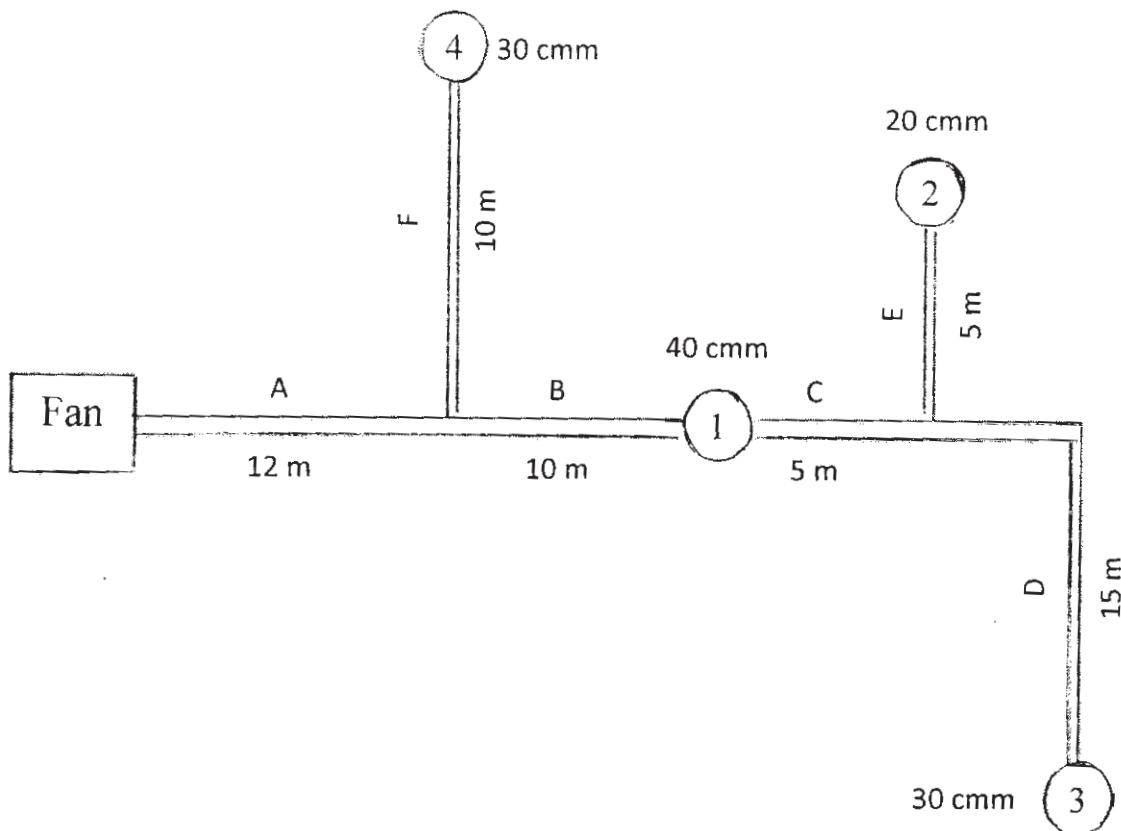

Fig. 1 - for Q. 9 b)
b) Determine the duct sizes of the duct system as shown in Fig.1 using equal friction method. Determine the FTP and dampering required at each branch. Assume the velocity in main duct A as 300 mpm. Also dynamic loss coefficient in elbow $k=0.22$. Use static regain factor $R=0.75$. [10]